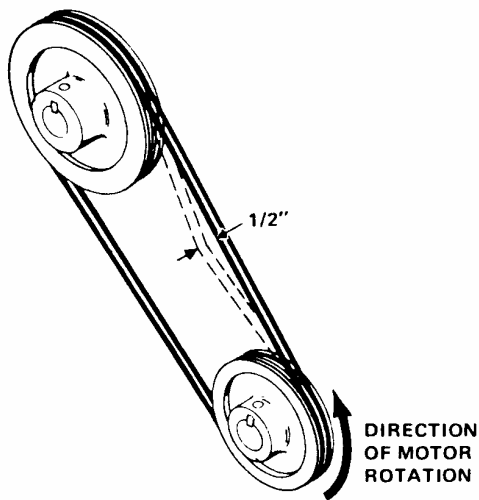

Figure 2-9. Checking Belt Tension
4. Check Motor O-ring belts for correct installation and tension (see fig. 2-9). If belt deflection is not approximately 1/2 inch, adjust as described in MOTOR BELT REPLACEMENT AND ADJUSTMENT (paragraph 4-6).
3. Check belt tension for approximately 1/2-inch deflection when moderate pressure is applied to belts as shown in fig. 2-9. If adjustment is required, loosen motor mount bolts and slide motor until proper tension is obtained.